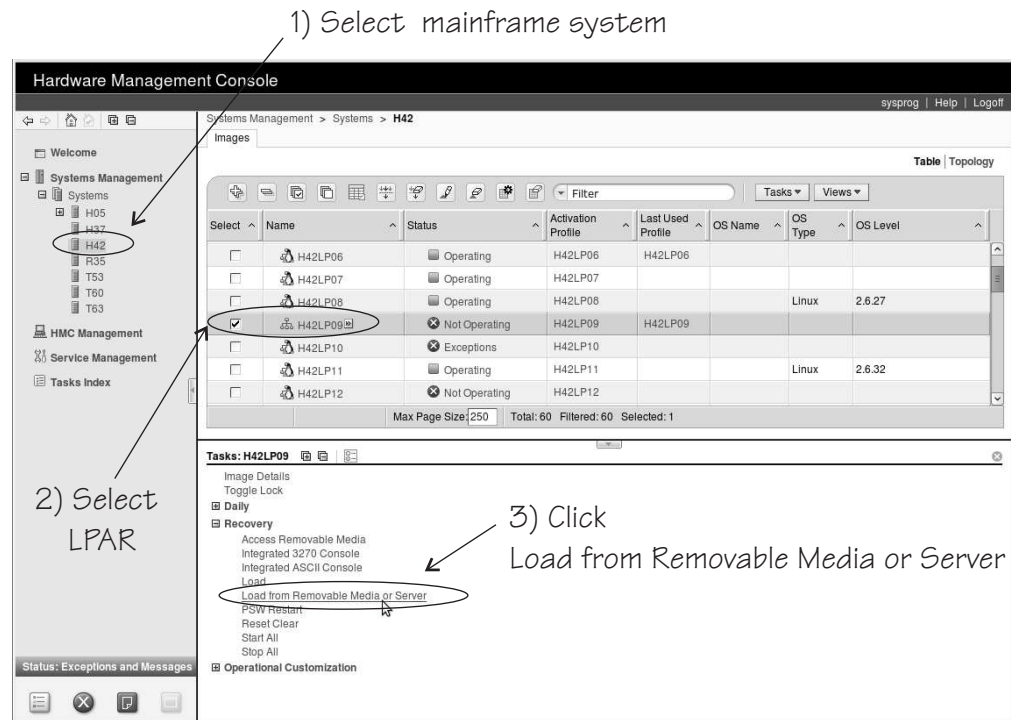

Figure 18. Load from Removable Media or Server on the HMC
3. In the **Tasks** area, expand **Recovery** and click **Load from Removable Media or Server** (see Figure 18).